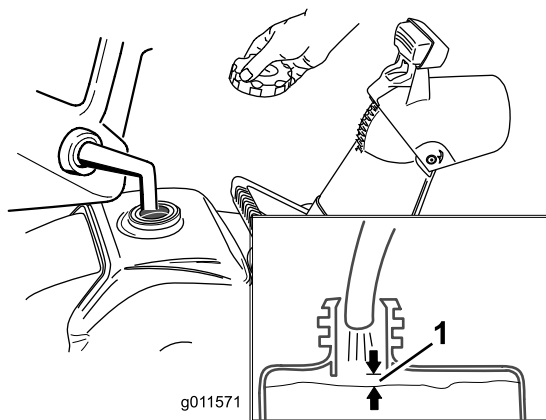

Figure 12
Fill the fuel tank with fresh unleaded gasoline having an octane rating at or near 87 from a major name-brand service station (Figure 12).
1. Ensure that the fuel tank is not overfilled (refer to Figure 12) and that the fuel cap is securely in place.